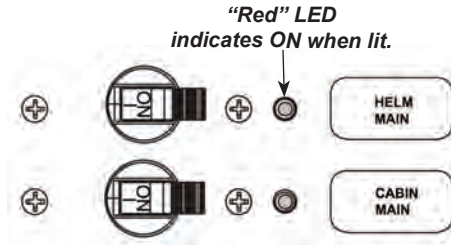

Figure A2: Helm & Cabin Main Circuit Breakers
5. Turn the HELM MAIN circuit breaker switch ON located on the 12VDC cabin panel. See Figure A2.